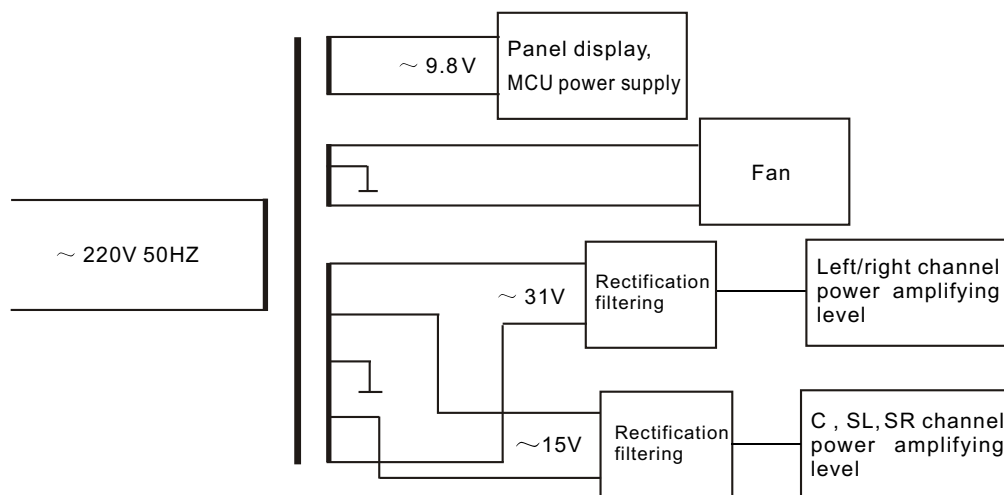

Figure 3.2.5.1 Power board power supply block diagram
Power board provides each unit circuit of the player with required various working voltage. Shown as in the figure 3.2.5.1, AV225T (RU) adopts a large power round transformer to supply power for main channel, central and surround channel power amplifier.